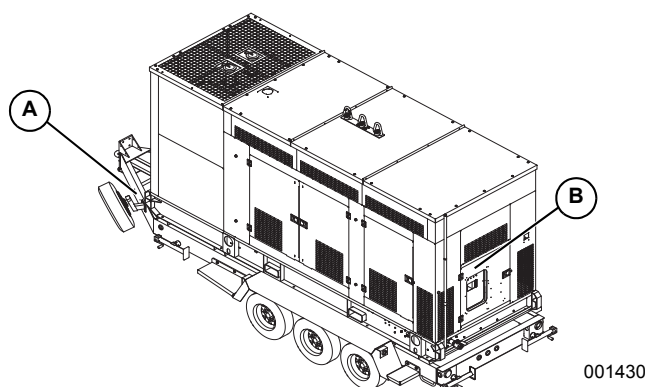

Figure 2-2. Unit and Serial Number Locations
See Figure 2-2 to locate the unit ID tag (A) and Vehicle Identification Number (VIN) tag (B). Important information, such as the unit model number, serial number, VIN and tire loading information is found on these tags. Record the information from these tags so it is available if the tags are lost or damaged. When ordering parts or requesting assistance, you may be asked to provide this information.